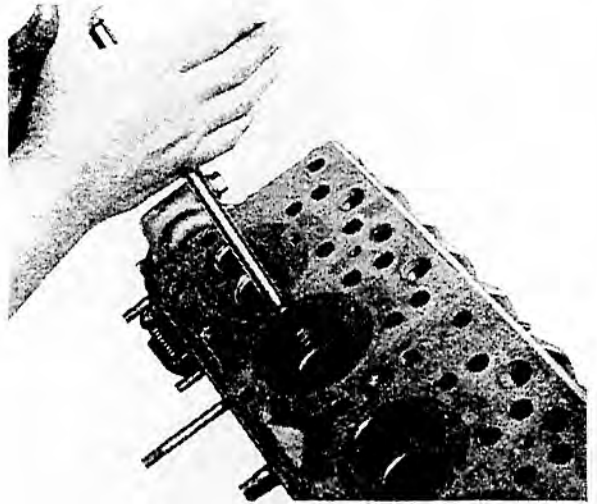

FIG. 118 VALVE GRINDING
3. Using rubber suction type grinding tool at even pressure, rotate valve back and forward as shown in Fig. 118.